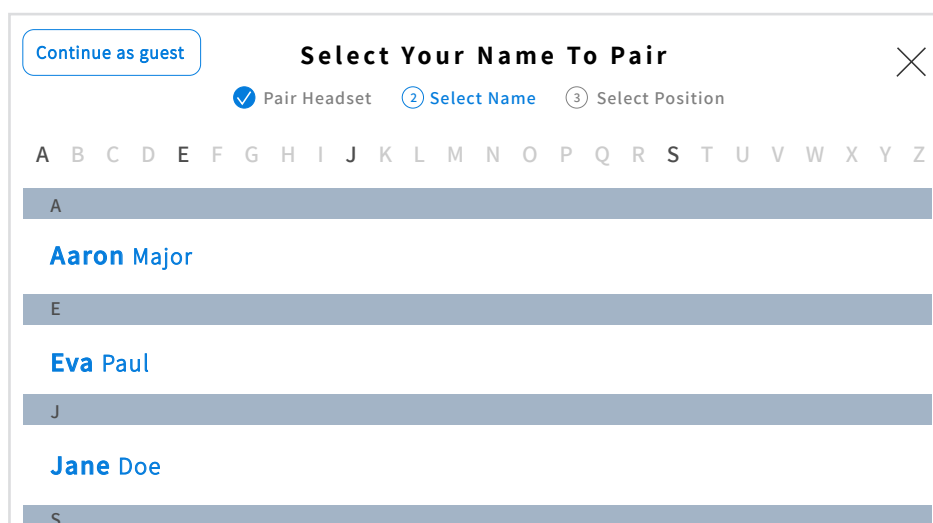

Fig. 1.23
- *** The group you are calling must be an active position in the restaurant and have headset wearers enrolled in that group (see example in Fig. 1.23, which has three active positions listed: Drive-Th-
If there is an existing Crew Profile, then the **Select Your Name To Pair** dialog opens (see Fig. 1.23). Tap on your name if it already exists (names are listed in alphabetical order, so you may have to scroll down the list to find it), or tap on the **Continue as guest** option in the upper left corner if you don't have a profile.